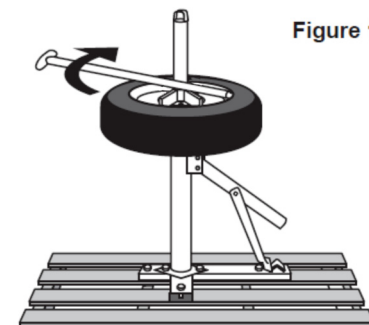

Figure 11
17. Slide bar down, and using the Post Cap as leverage, pull the Bar around, continuing to separate the bead from rim. See Figure 11.